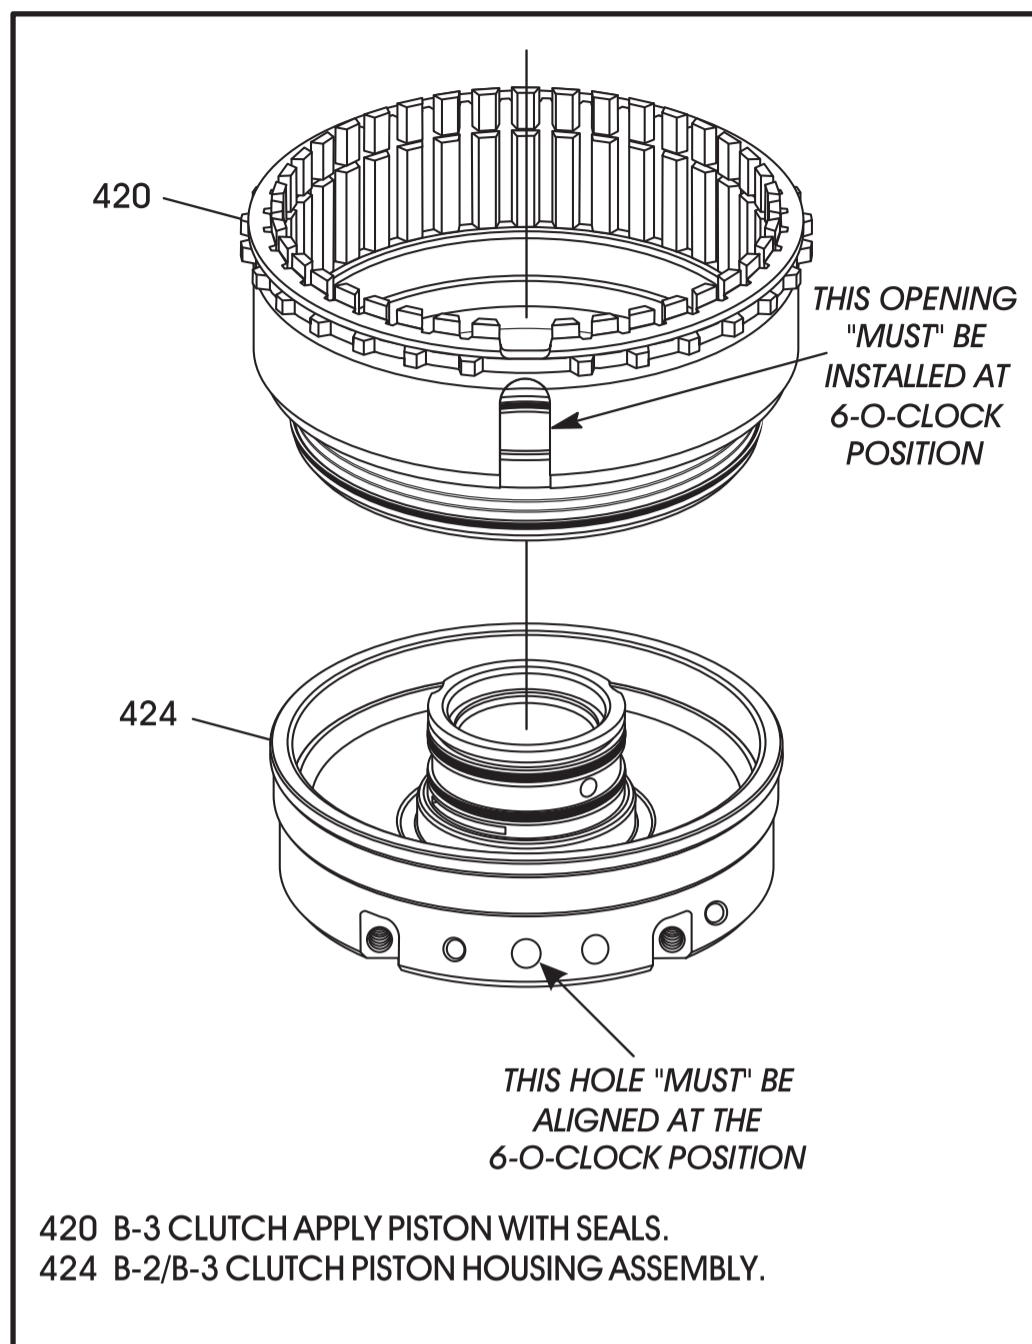

Figure 159
16. Place B-2/B-3 clutch piston housing assembly on a flat work surface with the hole shown in Figure 159 at **exactly** the 6-O-clock position.
17. Install B-3 clutch apply piston with opening at **exactly** the 6-O-clock position, as shown in Figure 159.